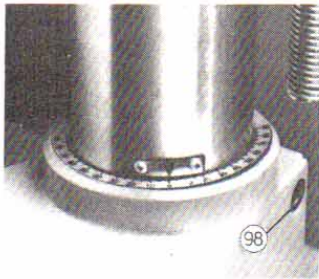

Fig. 4
The head and column together may be swivelled 360° about the vertical axis, a datum mark on the column (Fig. 4) showing the angular position against a graduated plate on the pedestal. Two cap head screws M10 x 45m (98) are used to clamp the column after adjustment.